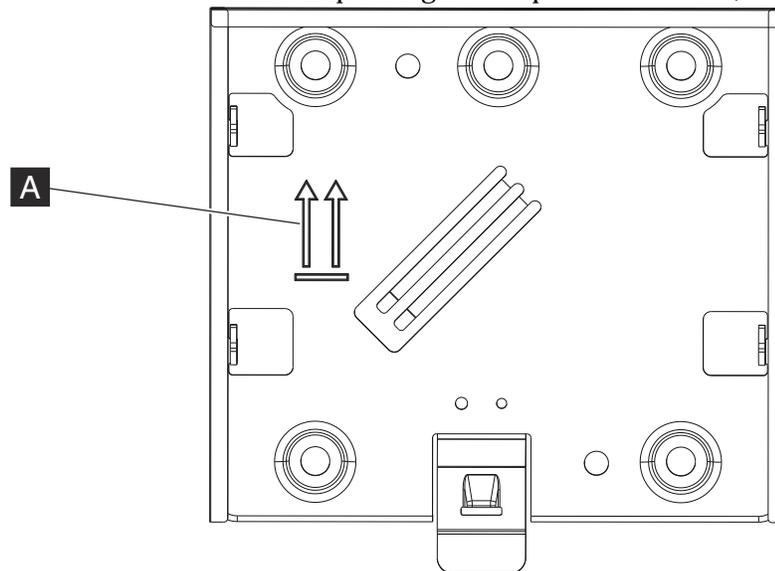

Figure 3. Wall mounting bracket
2. Pay close attention to the orientation of the arrow **A** on the wall mounting bracket and make sure that the arrow is pointing in the upward direction (see Figure 3).